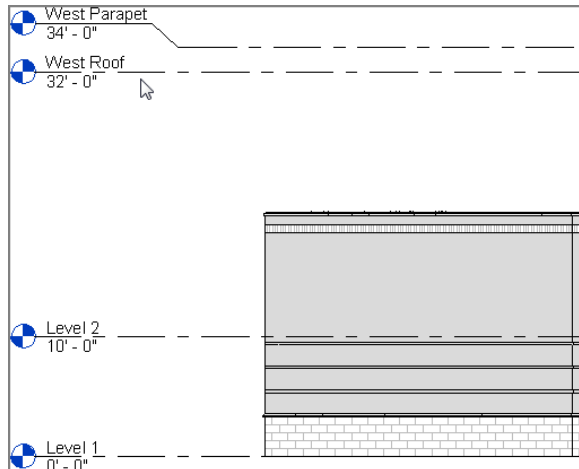

FIGURE 3.27: You can drag the 2D level ends wherever you want them.
8. Pick the blue grip, and drag the end to the left side of the building, approximately to the location shown in Figure 3.27. Notice that the two 2D lines are locked to one another.
11. Switch these levels to 2D, and drag them to align with the West Parapet and West Roof levels, as shown in Figure 3.27. (If you can't